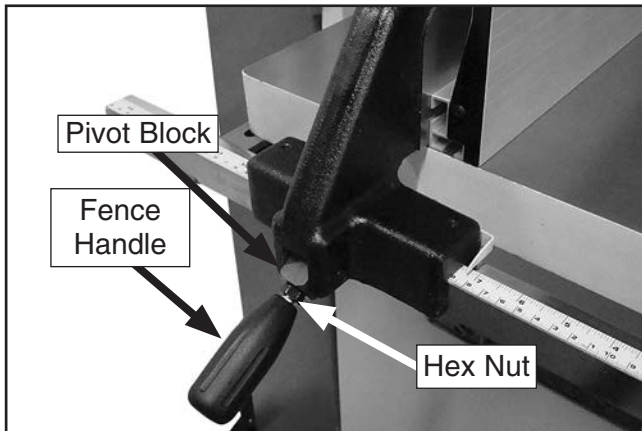

Figure 24. Fence handle components.
4. Tighten the hex nut on the fence handle against the fence pivot block (see **Figure 24**).